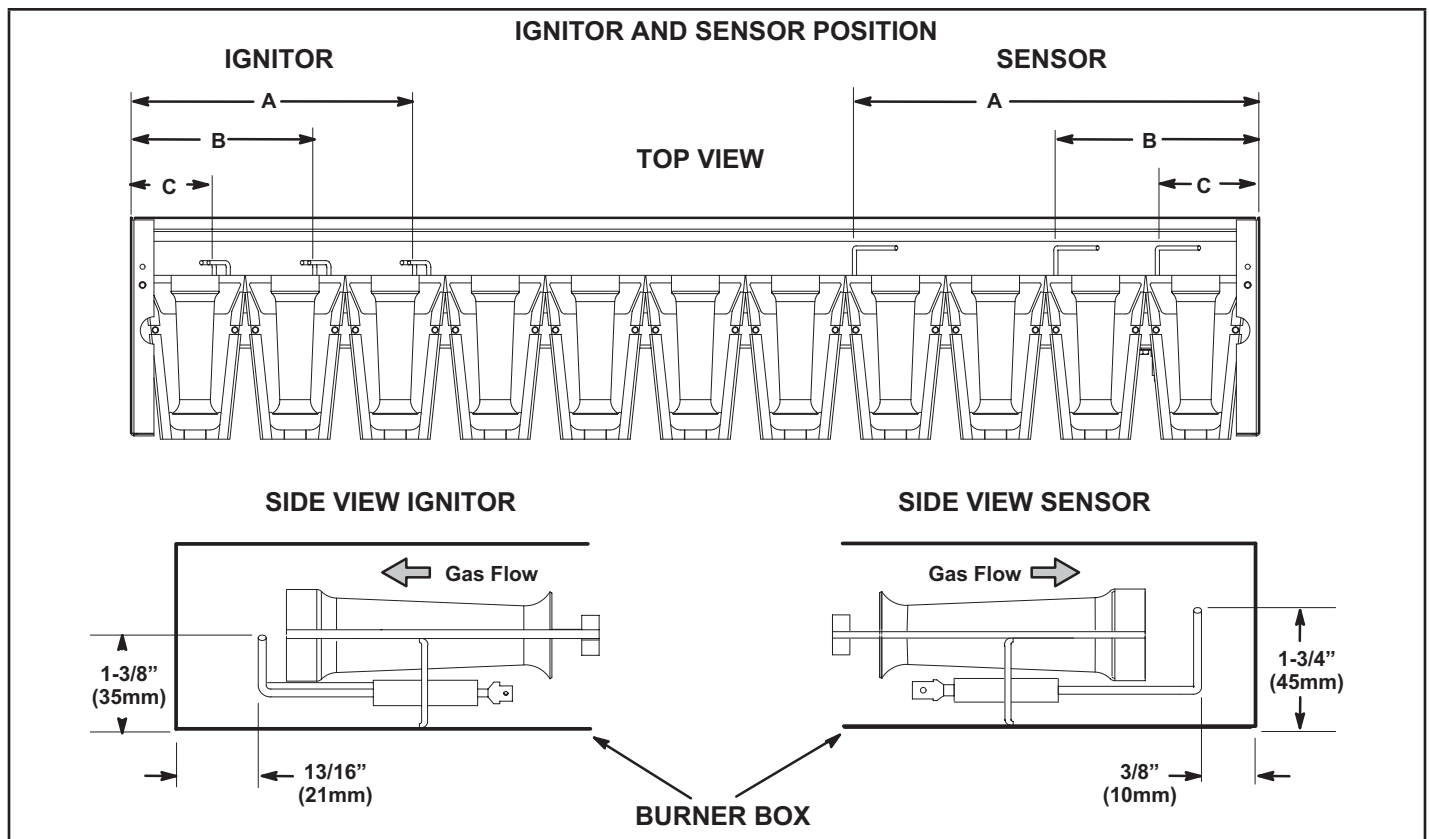

FIGURE 32
- 5 - Check the alignment of the ignitor and the sensor as shown in FIGURE 32.